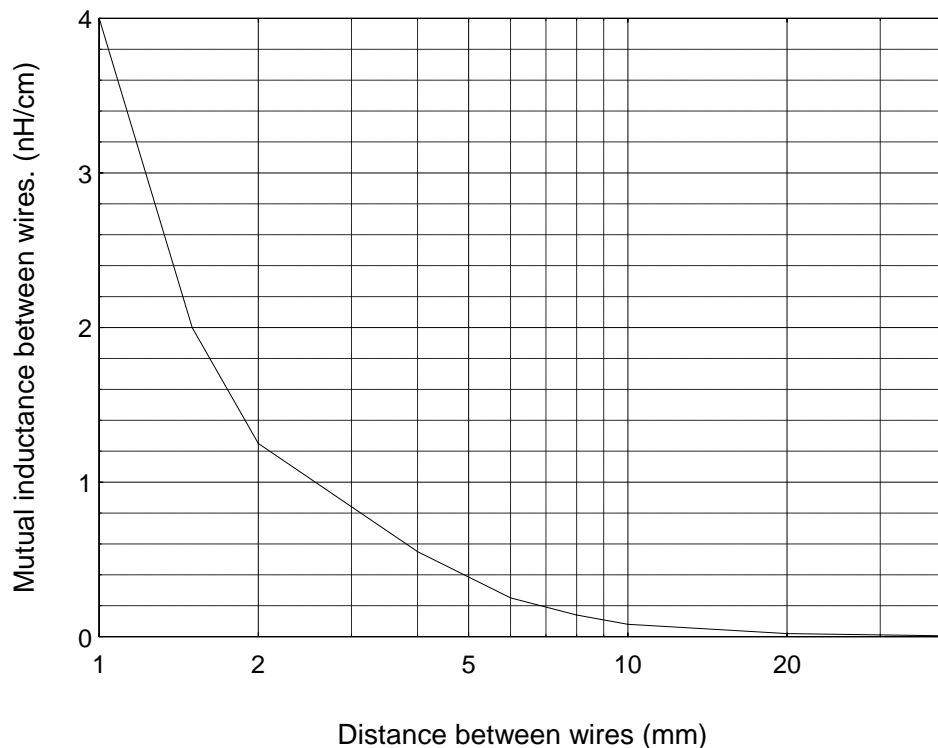

Figure 1.
3. a. Approximating a co-axial cable to two concentric cylinders, and given that the relative permittivity of the insulator between the cylinders (ϵ_r) is 20, and the relative permeability of the insulator (μ_r) is 1. Calculate the capacitance and inductance per unit length for the cable, and its characteristic impedance given that the diameter of the inner conductor is 1mm and the diameter of the outer conductor is 4mm. ($\mu_0 = 4\pi \cdot 10^{-7}$ H/m, $\epsilon_0 = 8.85 \cdot 10^{-12}$ F/m). (5)
- b. Draw a lumped parameter model for two wires in close proximity, highlighting the coupling mechanisms between the wires. (5)
- c. A drive system has the sensor wires from the motor Hall-effect sensor running next to the main drive output cables for 1m along one side of the enclosure. It is known that the mutual inductance between the two cables varies with the separation between the cables, and the value of the mutual inductance may be found from figure 1. The rate of change of current in the drive output cables is 10A/ μ sec during the drive switching transients, and you may assume that the source and load impedances are equal to the characteristic impedance of the cables. Calculate the magnitude of the noise voltage induced at the input to the drive electronics given that the cables are initially 1mm apart. (Assume that any capacitive coupling between the cables is negligible). (5)
- d. How far apart do the cables need to be, in section (b) above, to ensure that the magnitude of any induced voltage at the input to the drive remains below a logic level threshold of 1.2V. (5)